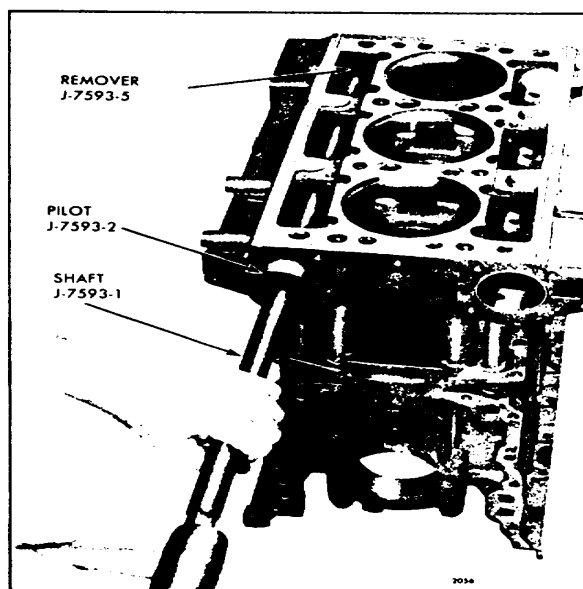
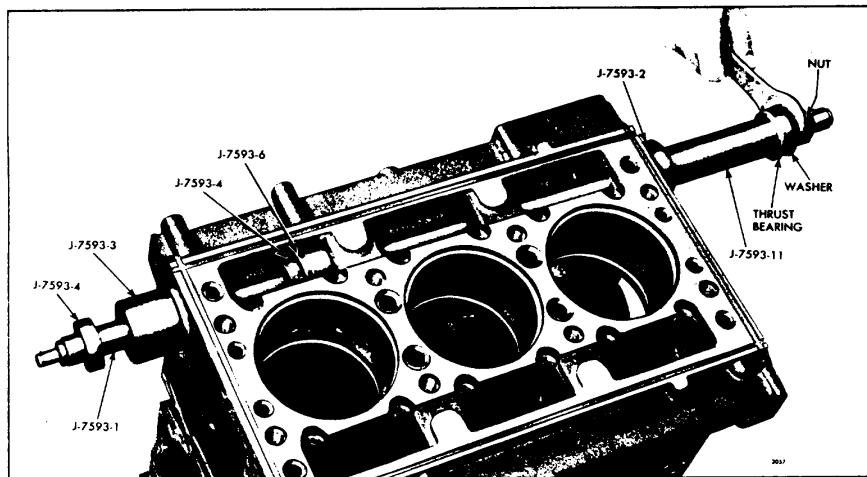
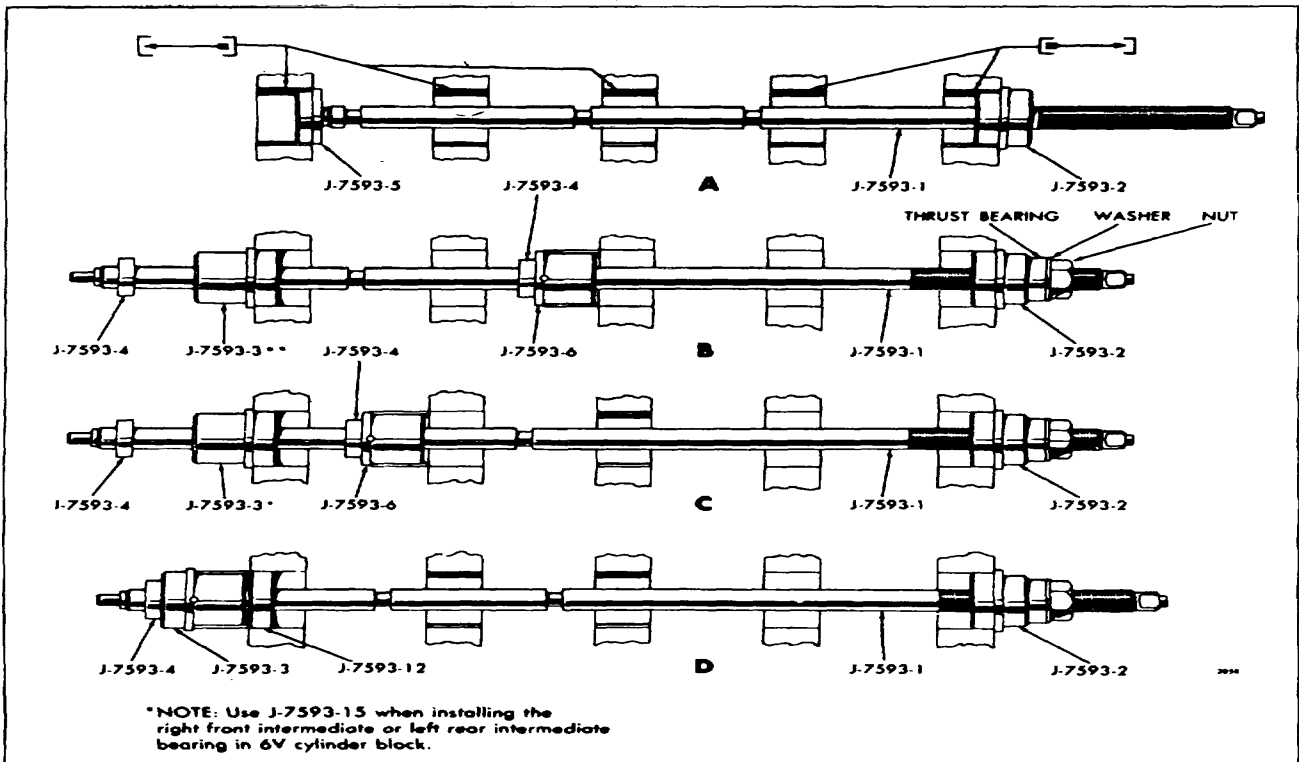

Fig. 3. -- Removing End Bearing
Fig. 4. - Installing Intermediate Camshaft Bearing
Fig. 7. - Removing and Replacing Camshaft Bearing
1. Remove all accessories and assemblies with their attaching parts as is necessary so that tool set J 759302 may be used as shown in Fig. 3 and in A of Fig. 7.
1. Insert pilot J 7593-2 in the bore of the block as shown in Fig. 4. Use the small end of the pilot if an end bearing has been installed. Refer to B and C of Fig. 7.
4. Slide installer J 7593-6 on the shaft until the locating pin registers with the notch in the bearing. Then, slide installer J 7593-3 or J 7593-15 on the shaft with the large diameter inserted into the end of the block bore. Refer to C and note of Fig. 7.
5. Next, place a spacer (if required), thrust washer, plain washer and hex nut over the threaded end of the puller. The short spacer J 7593-11, shown in Fig. 4., is used on the 6V blocks.
1. Insert pilot J 7593-2 in the bore of the block as shown in "D" of Fig. 7. Use the small diameter of the pilot if a bearing has been installed.
5. Next, place a spacer (if required), thrust washer, plain washer and hex nut over the threaded end of the shaft as shown in "D" of Fig. 7. and, using a suitable wrench on the hex nut, draw the bearing into place